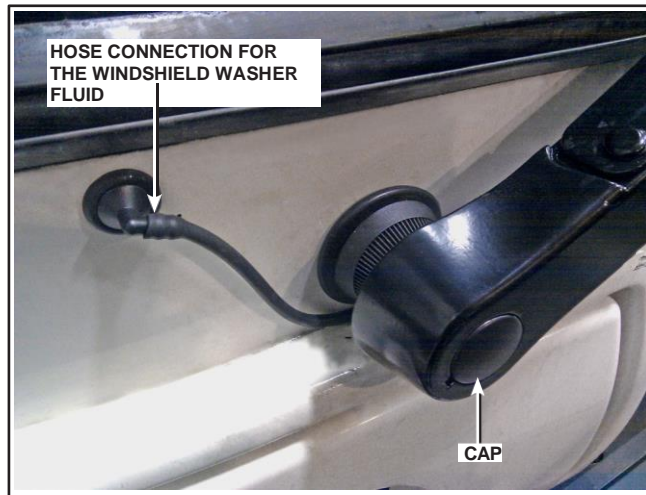

Figure 3 - Hose Connection for Windshield Washer Fluid
- 2.17. Connect the windshield washer fluid hose to the front shell connector. See Figure 3.